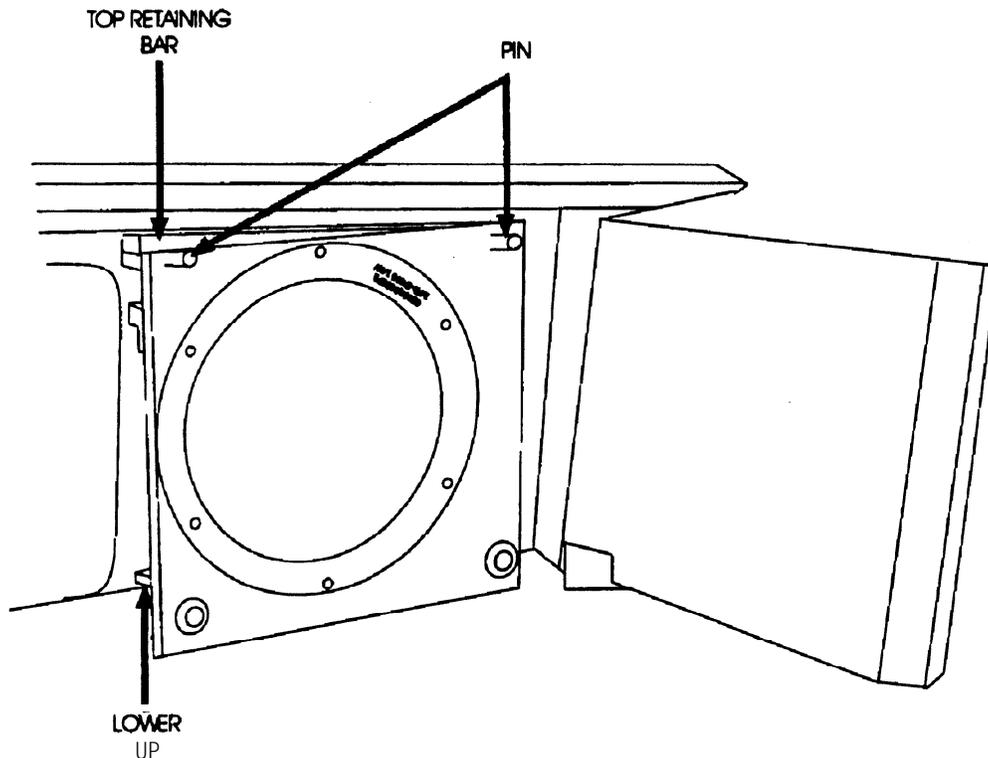

Figure 2-63. GPS Collimator Lens Assembly
2.4.7.5.2 GPS Collimator Lens Assembly Installation. Install the GPS collimator lens assembly, shown in Figure 2-63, as follows: